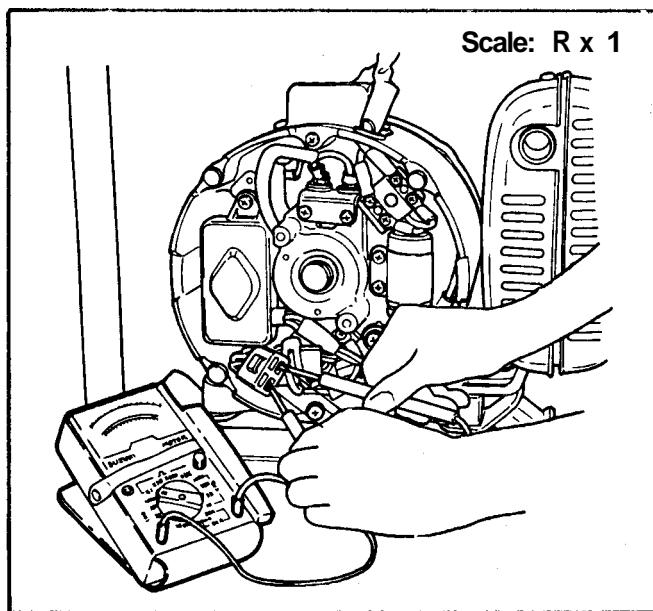

Figure 138
4. Measure the exciter coil resistance at the end of the wire connector that leads to the generator wiring harness. See Figure 138.